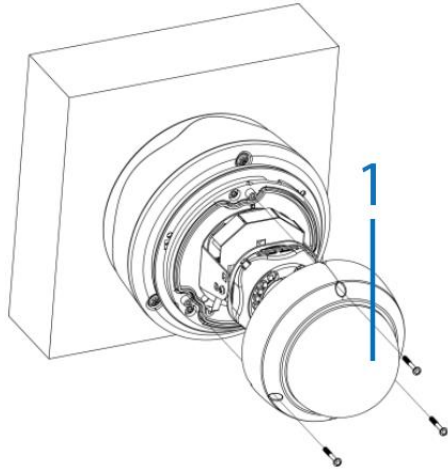

Figure 7
- Hold the camera dome (1) (Figure 7) up to the camera base and align the three holes on the dome with the three holes on the camera base, insert the three dome screws into the three holes and securely attach the dome to the camera base.